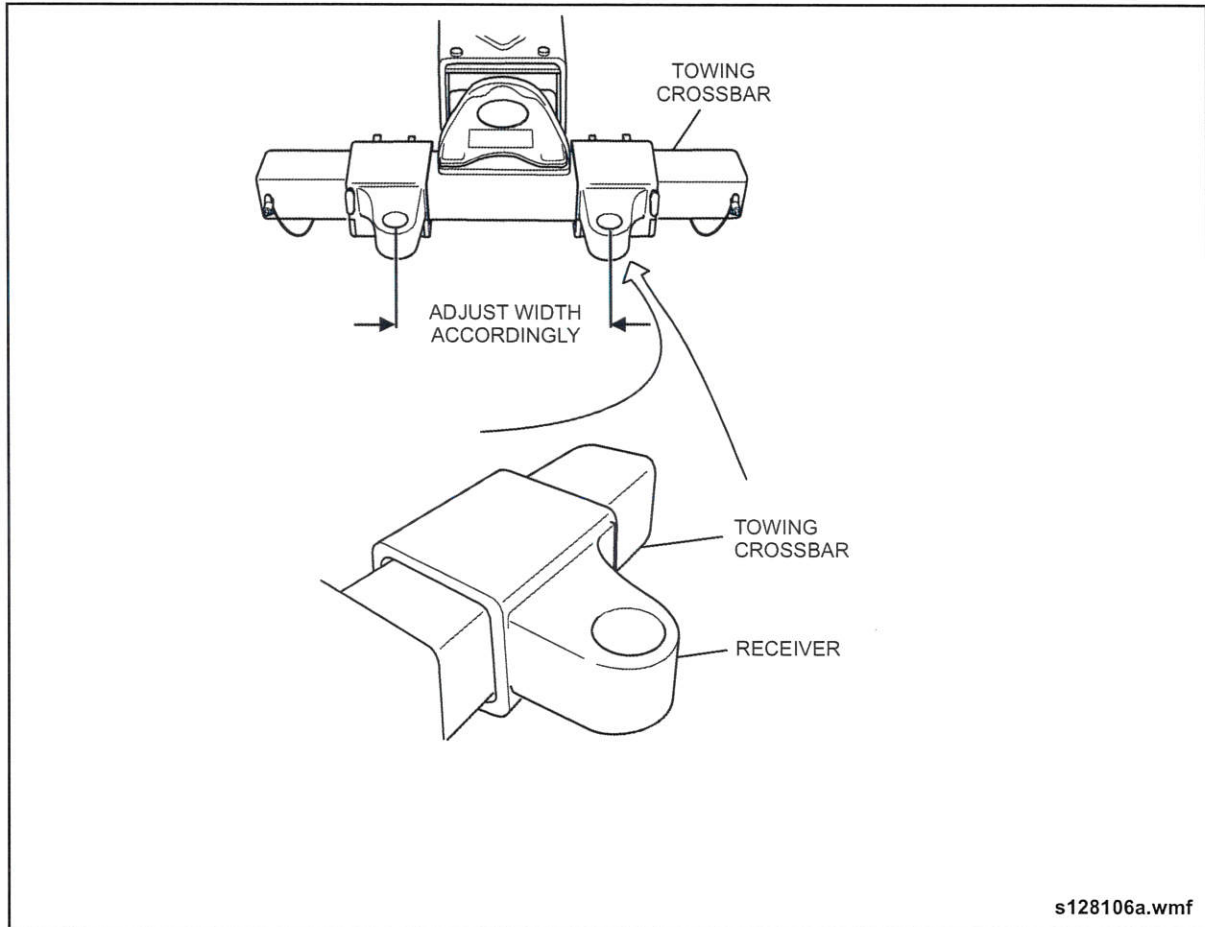

Fig. GI-25: Lift Receiver Installation
2. Install the lift receivers onto the towing vehicle crossbar and slide into position so that they align with the towed vehicle lift adapters. See "Fig. GI-25: Lift Receiver Installation" on page 45.